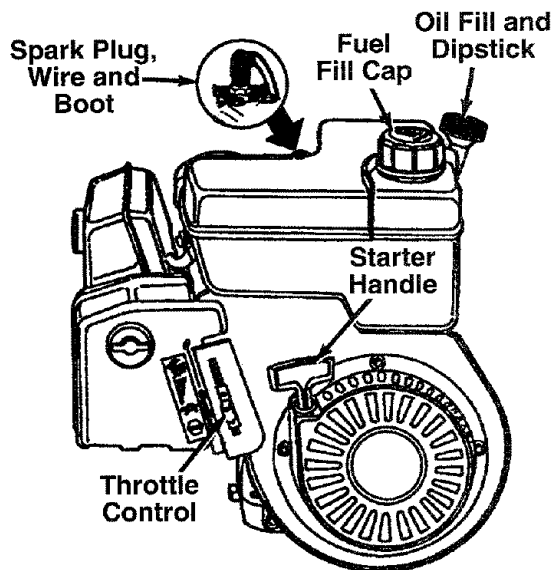
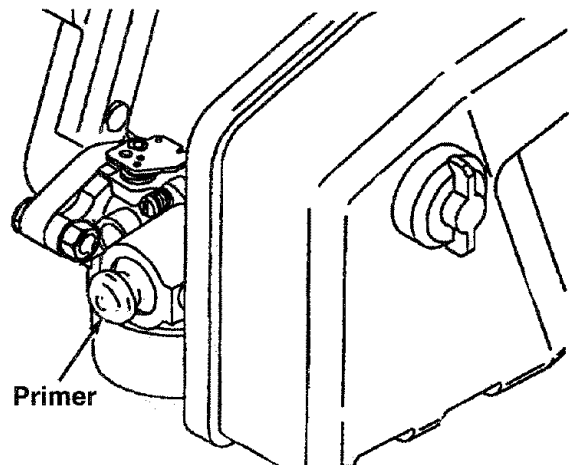

FIGURE 13.
FIGURE 14.
MAKE CERTAIN THE SPARK PLUG WIRE IS DISCONNECTED AND MOVED AWAY FROM THE SPARK PLUG BEFORE ASSEMBLING THE CHIPPER-SHREDDER. REFER TO FIGURE 13, PAGE 11.
PRIMER—Pumps additional fuel from the carburetor to the cylinder for use when starting a cold engine. See figure 14.
- Attach spark plug wire and rubber boot to spark plug. See figure 13.
- Place the throttle control lever in FAST position (UP).
- Push primer two or three times prior to starter operation. See figure 14. Use sharp pushes and wait about **two seconds** between each push. In cold weather (50°F or below), push primer five times.
- Grasp starter handle (see figure 13) and pull rope out slowly until engine reaches start of compression cycle (rope will pull slightly harder at this point). Let the rope rewind slowly.